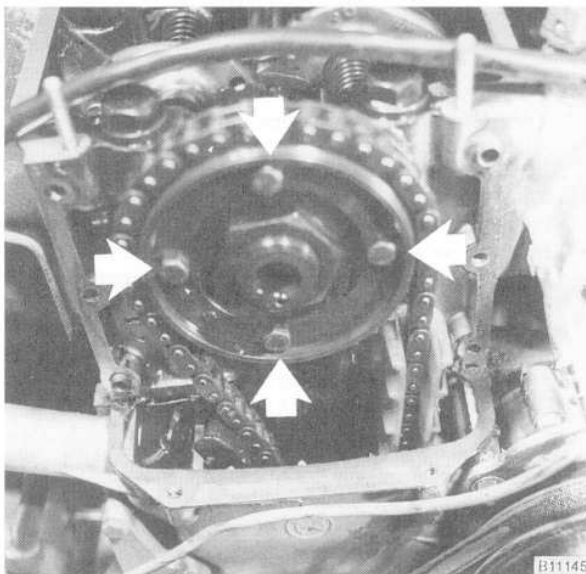

Fig. 27. Camshaft sprocket mounting bolts (arrows).
18. Remove the bolts from the camshaft sprocket and remove the sprocket. See Fig. 27. Carefully remove the chain from the sprockets and tensioning rails.